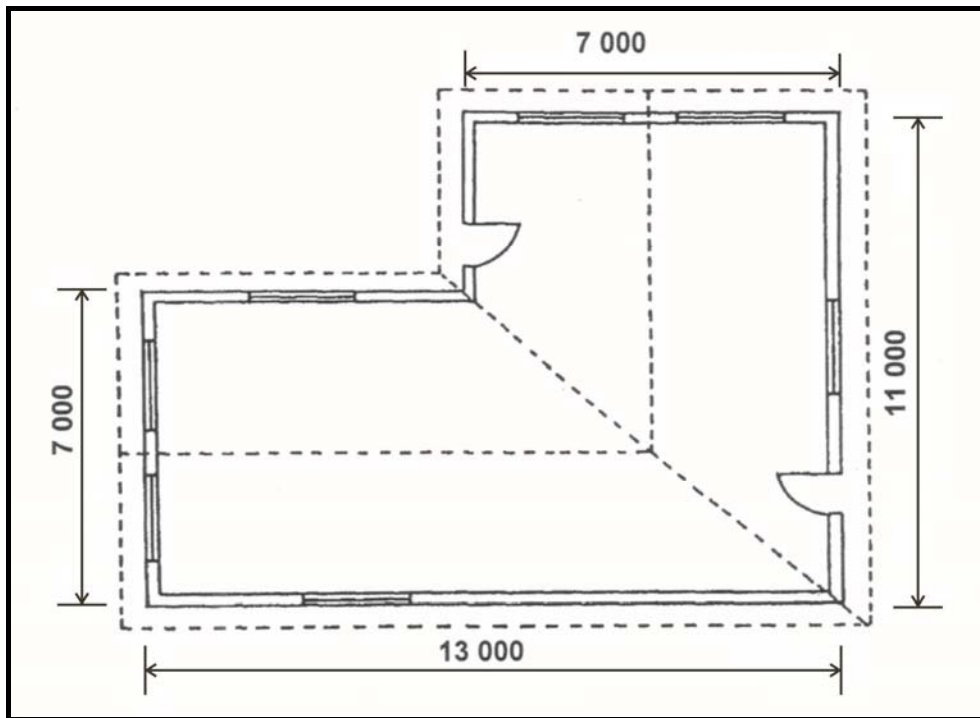

Figure 4.6
4.6 FIGURE 4.6 below shows the floor plan of a simple dwelling.